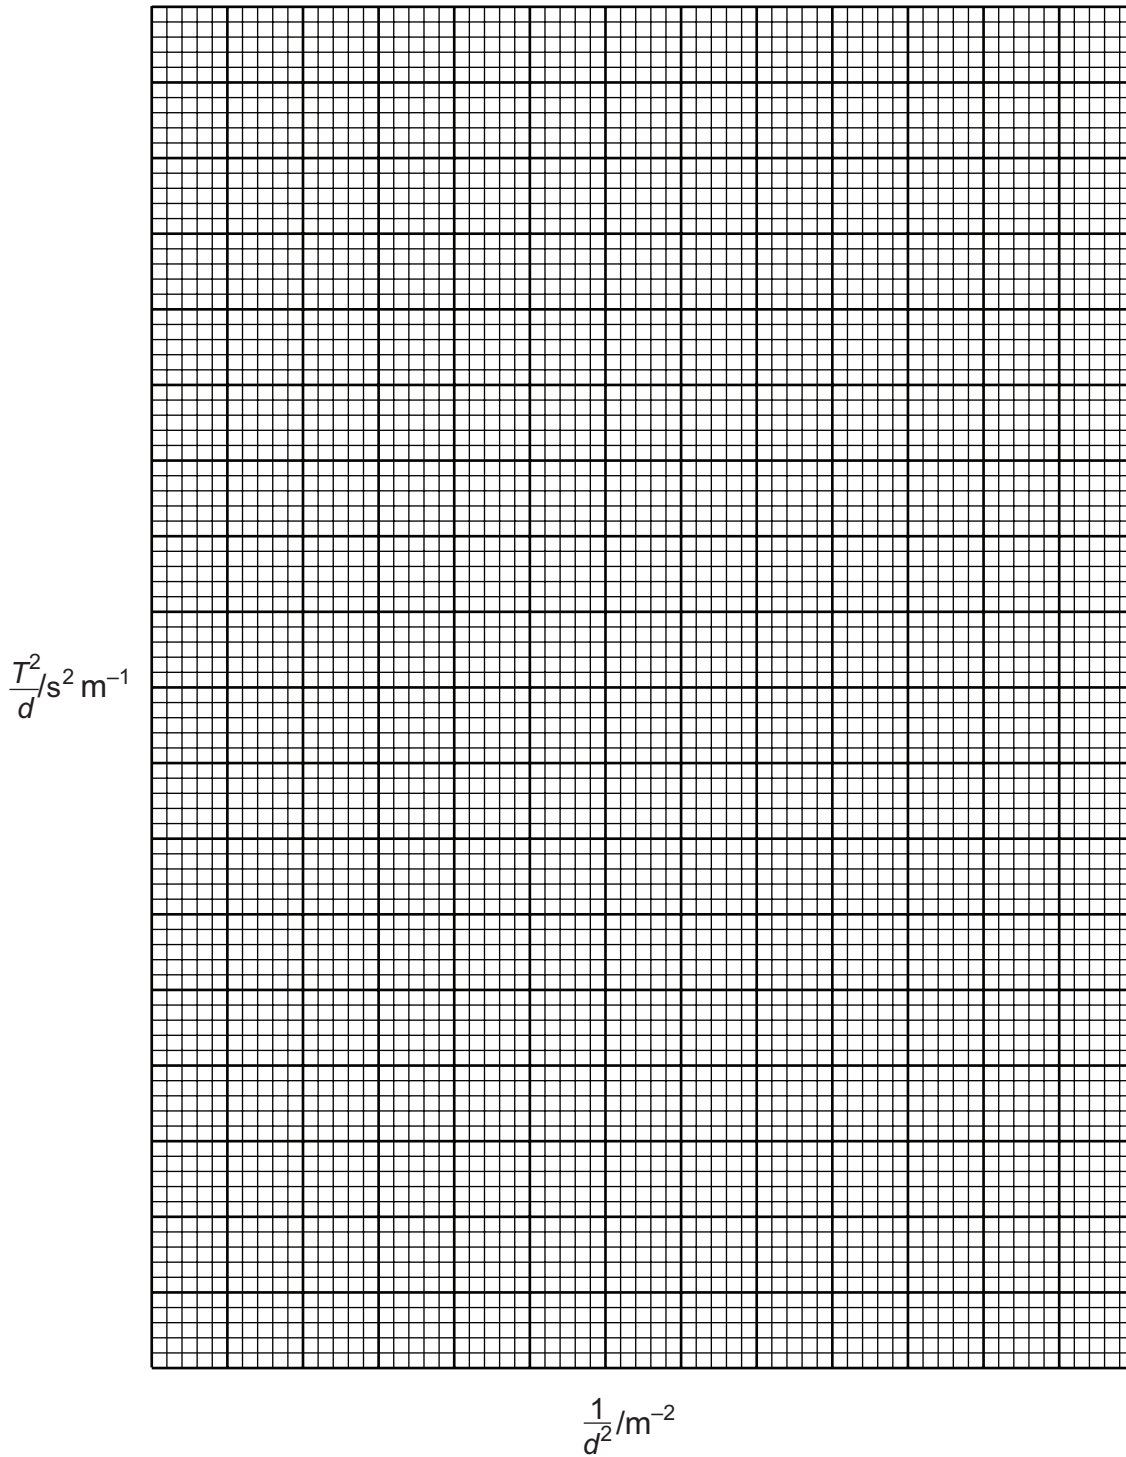

Fig. 1.2
- (iii) You are to draw the graph T^2/d against $1/d^2$. Choose suitable scales for the graph grid in **Fig. 1.2**. Plot the points and draw the best fit straight line. [4]